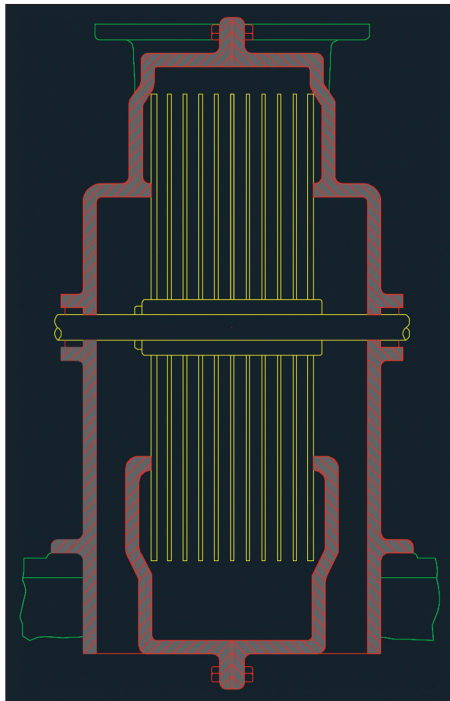

FIGURE 8.18 Symmetrical crosshatching highlights separate metal castings.
9. Type **REGEN** and press Enter. Figure 8.18 shows the result.